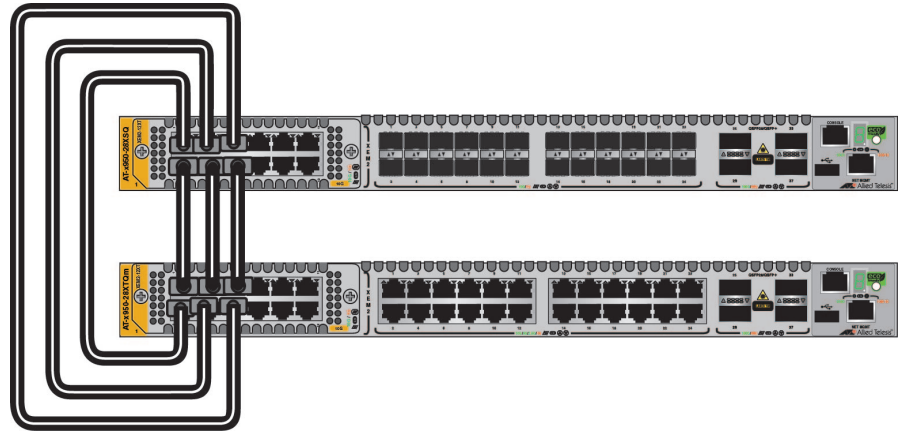

Figure 35. Example Trunk Using XEM2-12XT Line Cards
- ❑ Figure 35 on page 86 is an example of a stack of two switches with a trunk of six 10Gbps links on XEM2-12XT Line Cards.